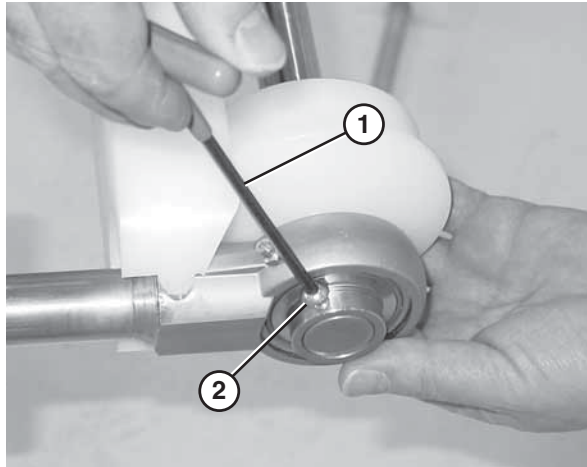

Figure 73
5. Use a hex wrench (**Figure 73, item 1**) to tighten the bearing shaft fasteners (**Figure 73, item 2**).